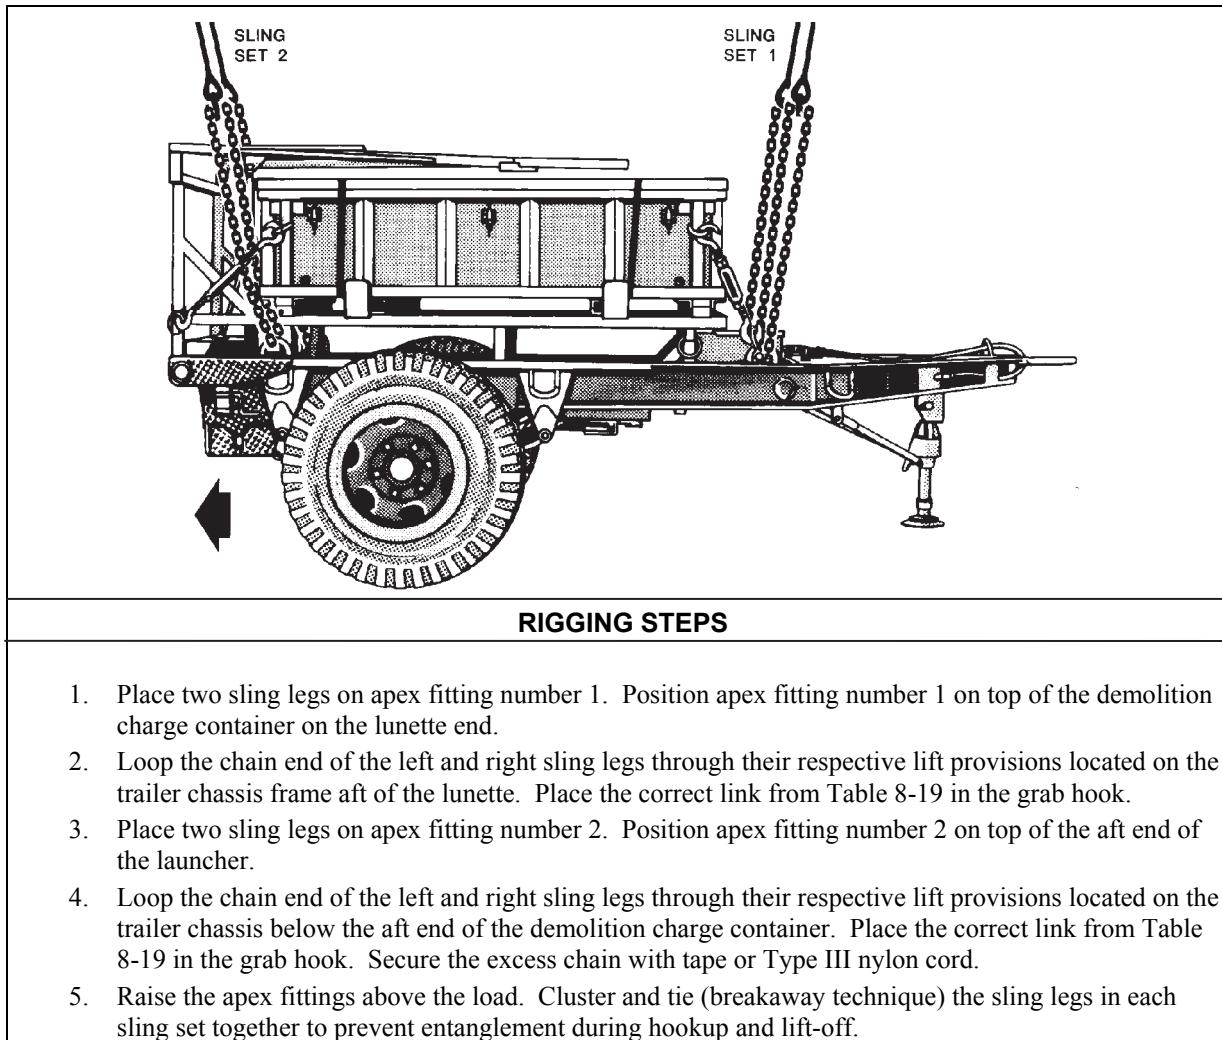

Figure 8-19. Mine Clearing Line Charge Mounted on M200A1 Trailer
- **Rigging.** Rig the load according to the steps in Figure 8-19.